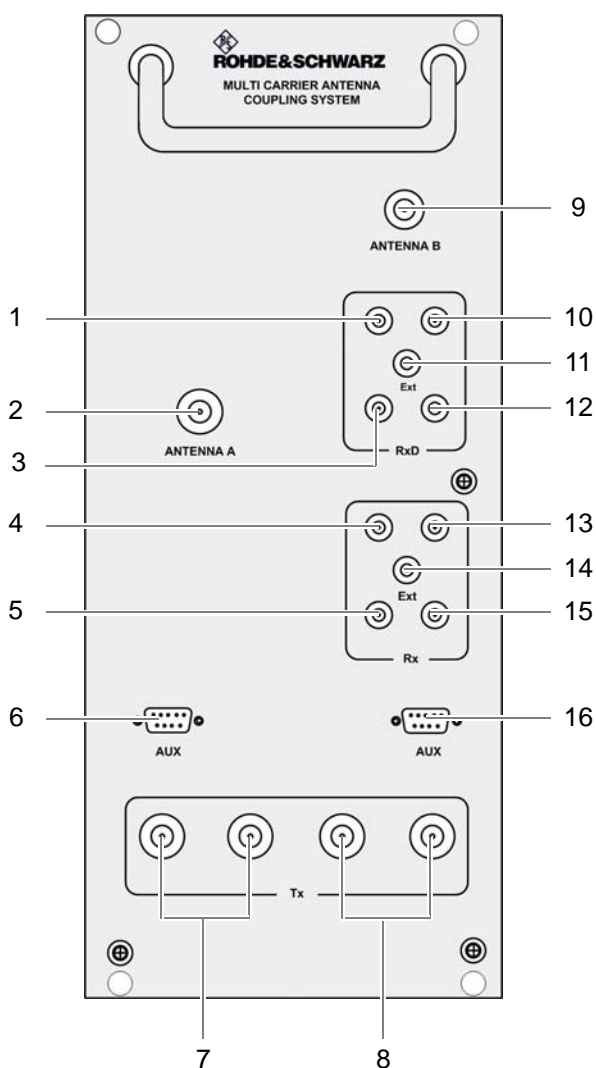
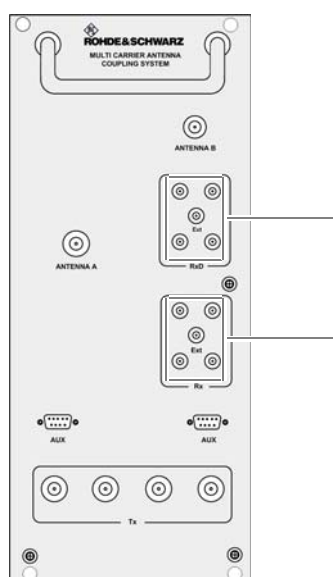

Figure 11.2 ACS (front view)
Figure 11.3 ACS front view - terminating resistors (variant-dependent)
Figure 11.2 shows the front view of the ACS. The following table describes the components in greater detail.
- | Remove the cable at the "AUX" port using a flathead screwdriver size 0.6 x 3.5, see (6) in Figure 11.2 on page 180.
- | Remove the cables at ports "Antenna A" and "Antenna B" as well as at the antenna inputs "Tx" using a wrench size 19, see (2), (7) and (8) in Figure 11.2 on page 180.
- | Remove the cables at the antenna outputs "Rx" and "RxD" using a wrench size 8, see (1) and (3) to (5) in Figure 11.2 on page 180.
3. Remove the terminating resistors (if available, variant-dependent) from the Rx multicouplers on the front cover of the ACS by screwing them off using the size 8 wrench, refer to Figure 11.3.
2. If available, mount the terminating resistors (variant-dependent) properly on the front cover of the ACS again applying a tightening torque of 0.6 Nm with a size 8 dynamometric key, refer to Figure 11.2 on page 180 and Figure 11.3 on page 182.
- | Connect the corresponding cables at the antenna outputs "Rx" and "RxD" with a dynamometric key size 8 using a torque of 0.6 Nm, see (1) and (3) to (5) in Figure 11.3 on page 182.
- | Connect the corresponding cables at the ports "Antenna A" and "Antenna B" as well as at the antenna inputs "Tx" with a dynamometric key size 19 using a torque of 1 Nm, see (2), (7) and (8) in Figure 11.3 on page 182.
- | Connect the corresponding cables at the "AUX" port using a flathead screwdriver size 0.6 x 3.5, see (6) in Figure 11.3 on page 182.